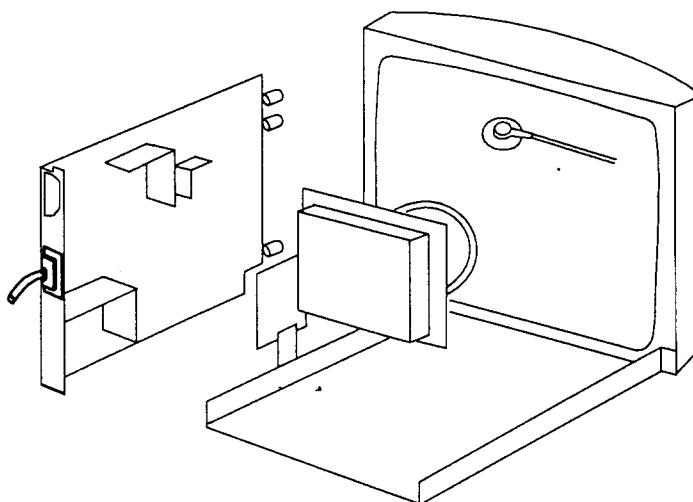

Fig. 4.3
- Place Main panel in service position as shown in **Fig.4.3**.